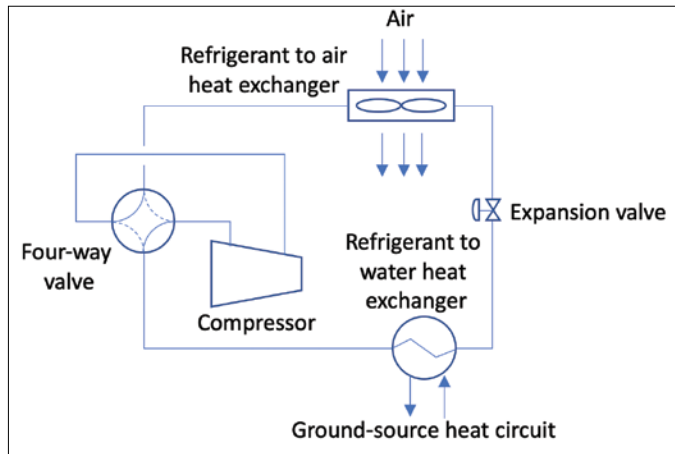

FIGURE 6e. Here, a reversible heat pump is shown that transfers heat from a ground source to air during winter and vice versa during summer
- A reversible heat pump used for space heating during winter and cooling during summer, where the direction of the flow is reversed so that the evaporator and condenser switch roles depending on the ambient temperature (Figure 6e)